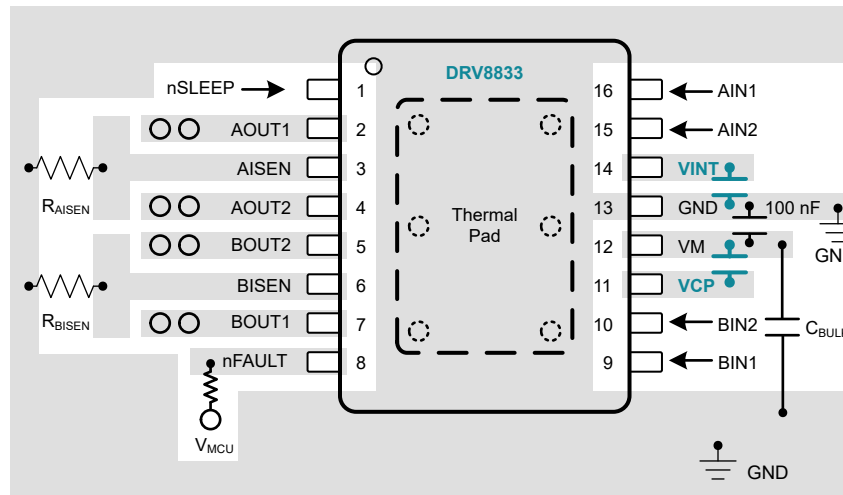
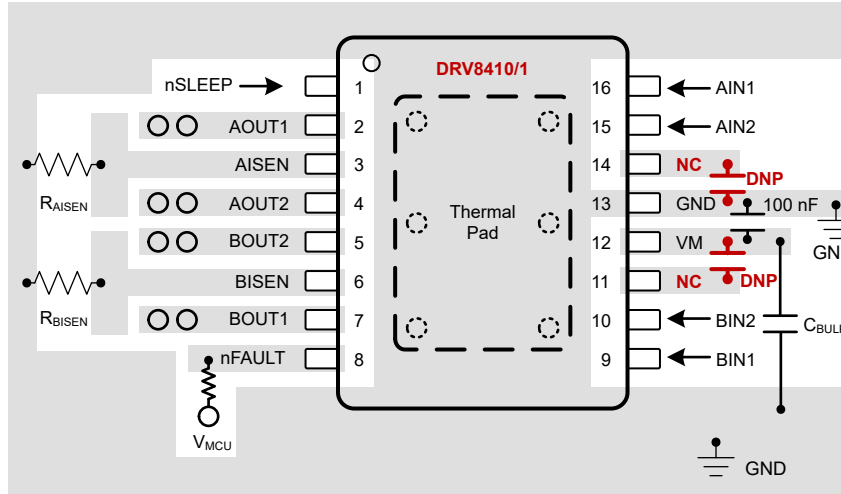

Figure 10-19. DRV8833 Layout Example
Figure 10-20. DRV8410/1 Footprint Compatible Layout Example
- DRV841xPWP can use the same footprint as DRV8833 and DRV8833C in the HTSSOP package as shown in Figure 10-19 and Figure 10-20.